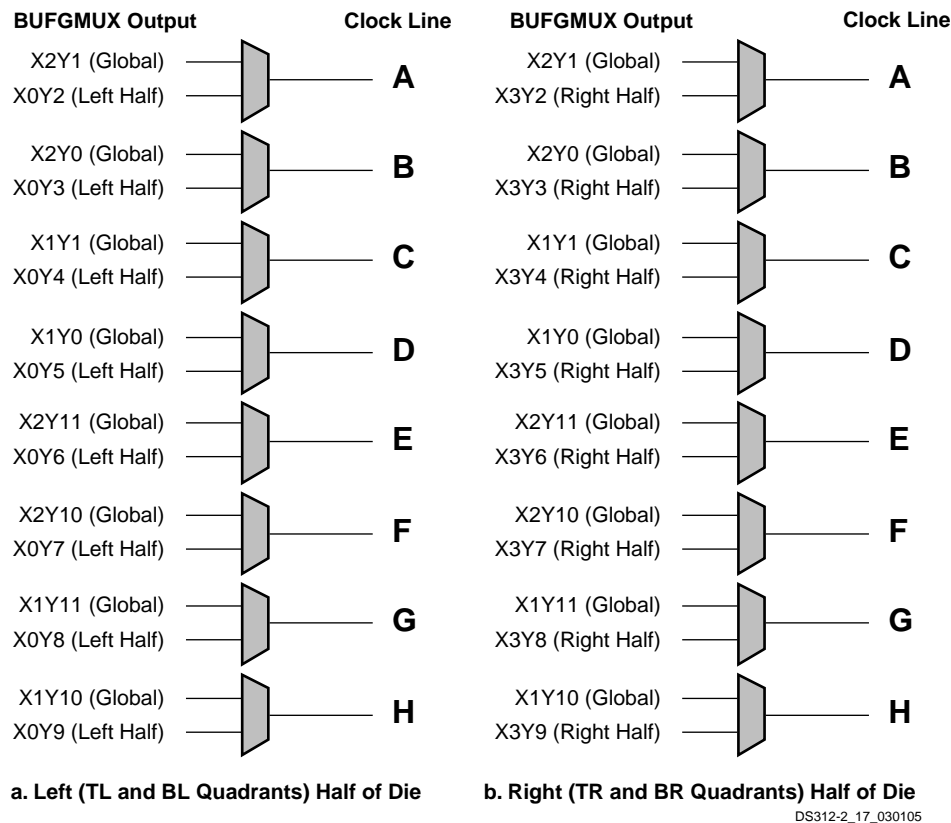

Figure 44: Clock Sources for the Eight Clock Lines within a Clock Quadrant
2. See Figure 42 for specific BUFGMUX locations and Figure 44 for information on how BUFGMUX elements drive onto a specific clock line within a quadrant.
The clock routing within the FPGA is quadrant-based, as shown in Figure 42. Each clock quadrant supports eight total clock signals, labeled 'A' through 'H' in Table 36 and Figure 44. The clock source for an individual clock line originates either from a global BUFGMUX element along the top and bottom edges or from a BUFGMUX element along the associated edge, as shown in Figure 44. The clock lines feed the synchronous resource elements (CLBs, IOBs, block RAM, multipliers, and DCMs) within the quadrant.
in a single clock quadrant. Figure 44 shows how the clock lines in each quadrant are selected from associated BUFGMUX sources. For example, if quadrant clock 'A' in the bottom left (BL) quadrant originates from BUFGMUX_X2Y1, then the clock signal from BUFGMUX_X0Y2 is unavailable in the bottom left quadrant. However, the top left (TL) quadrant clock 'A' can still solely use the output from either BUFGMUX_X2Y1 or BUFGMUX_X0Y2 as the source.